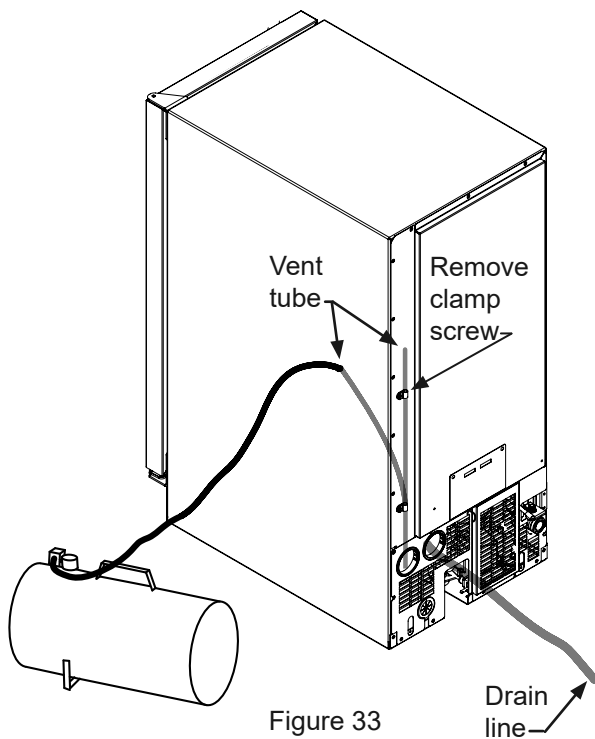

Figure 33
15. Apply air pressure (approximately 10 psi) to the end of the vent tube which will purge the remainder of the water from the drain pump and the drain line. (See Figure 33).